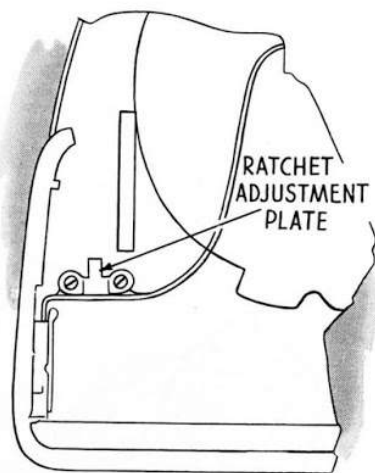

FIG. 93
1. Loosen the two screws holding the ratchet adjustment plate located at the top of the well of the left front wheel. See Figure 93.